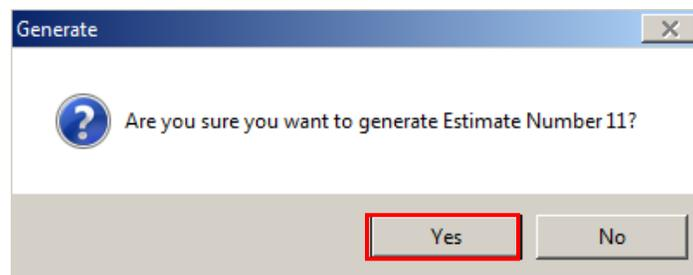

Figure 11-13. Estimate Generate Confirmation Window
2. Click the **Yes** button on the Generate Window (Figure 11-13).